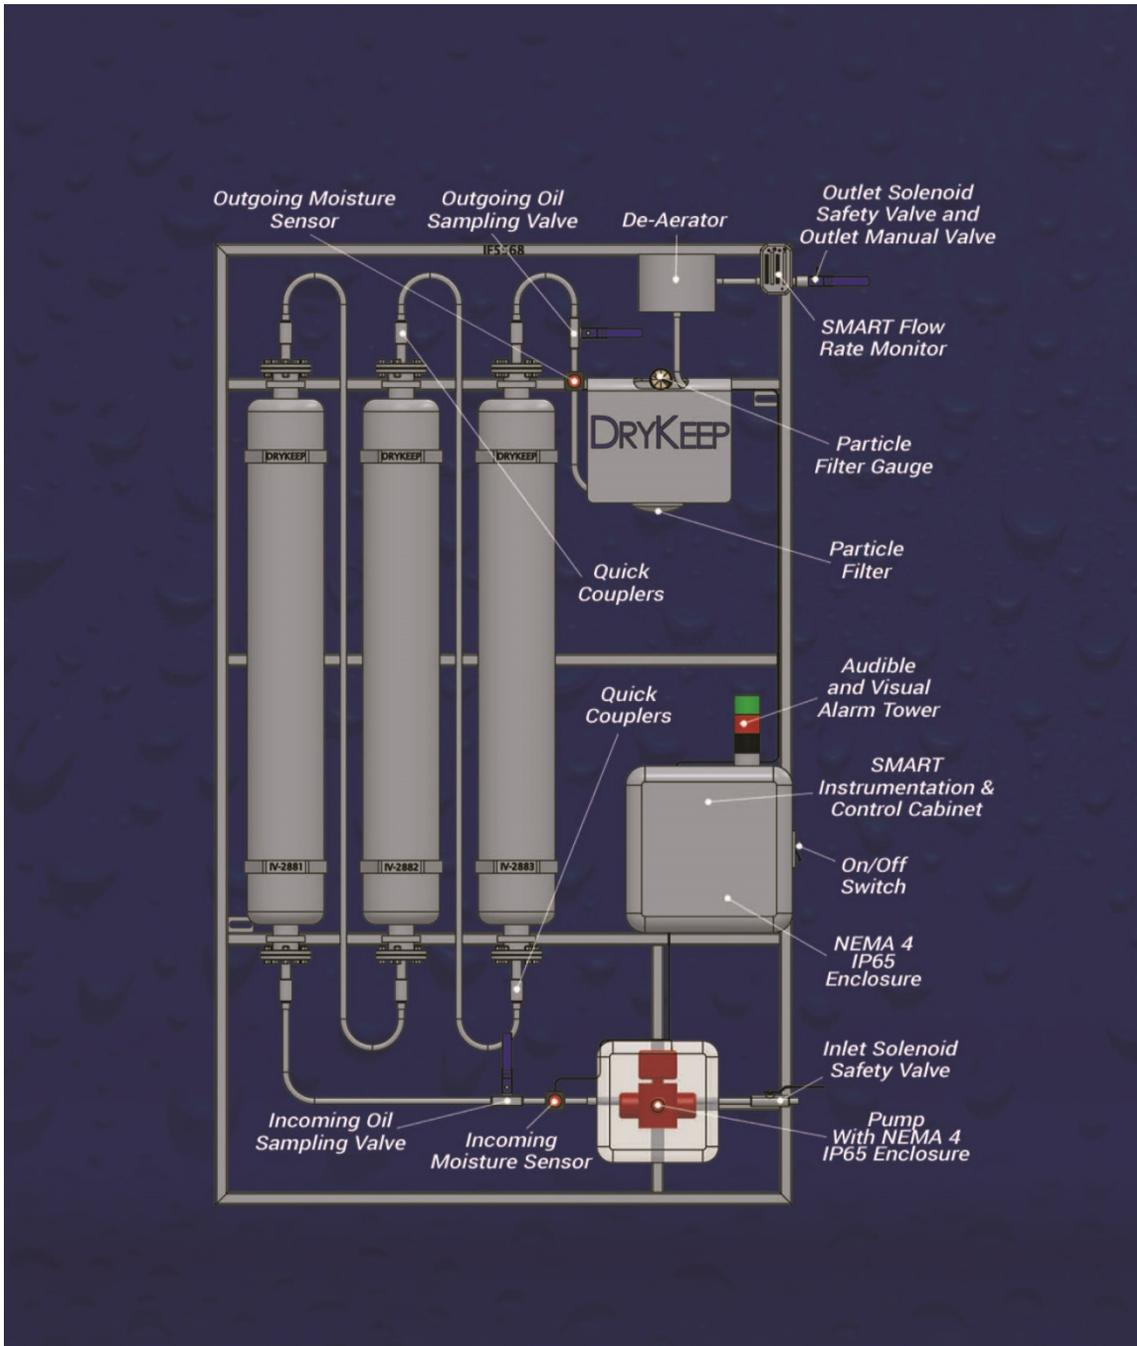

Figure 1: DryKeep® system layout
DryKeep® is shipped from the factory fully assembled as shown in figure 1 below.
The cylinders are factory filled with transformer oil and molecular sieve adsorbent beads. The unit can be mounted as received, or the cylinders can be removed prior to mounting to lighten the load and ease the installation process. The rest of the components are to be left on the framework. The DryKeep® system must be mounted vertically with inlet valve and the pump located at the bottom and de-aerator at the top. (Refer to Figure 1).
- 1) Upon receipt at the installation site, remove the top of the DryKeep® crate and unscrew the four (4) 1½” lag screws used to bolt the DryKeep® frame to the shipping crate. *Units with climate controlled enclosures are not bolted to the crate.*
- 3) *Refer to Figures 1, 4, and 5.* To connect DryKeep® to the transformer, first remove the shipping plugs from the DryKeep® inlet and outlet valves.
- 2) Refer to Figure 1. Ensure that the DryKeep® manual outlet valve is closed.
- 10) Refer back to Figure 1. Now that the pump is running, slowly open the bleed valve on the de-aerator tank. It is recommended that the installer have a vessel on hand to capture any oil that may come out of the bleed valve tube while it is open. Ensure that all the trapped air in the system escapes through the bleed valve tube on the de-aerator tank.